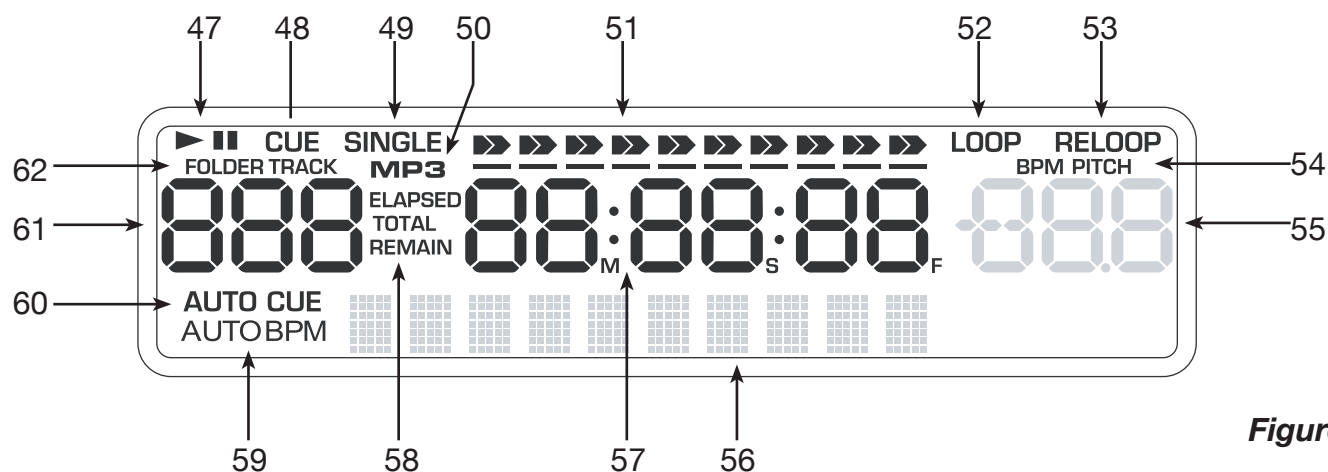

Figure 6
D. LCD DISPLAY PANEL (FIGURE 6)
55. PITCH/BPM METER - This meter will display the pitch percentage applied by the *PITCH SLIDER* (5).